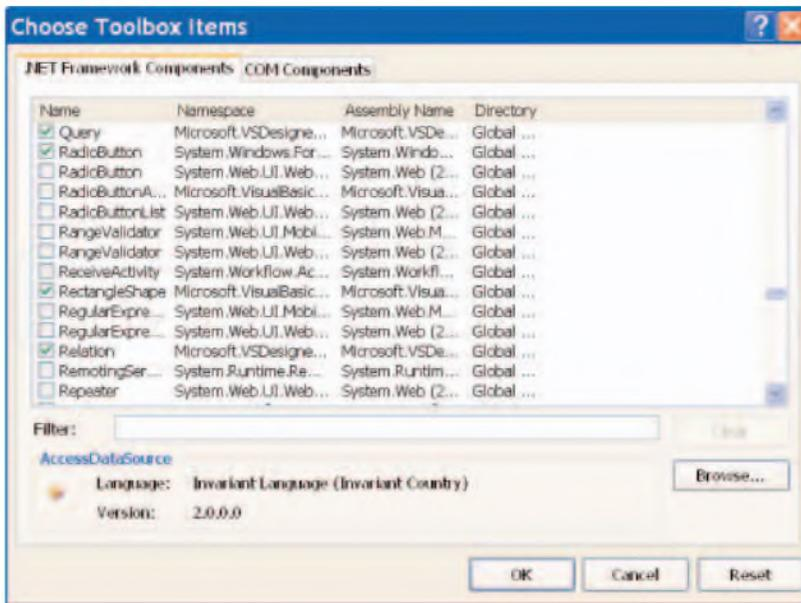

Fig.1. The Shape components will not be loaded automatically when using the Express edition, but they can be loaded manually under their individual names
However, it is true that installing this software will not result in the new components automatically appearing in the relevant section, as will normally happen with the full version, but they can be loaded manually. I had, in fact, tried to do this, but made a mess of quite a simple process. It is just a matter of going to the Tools menu and choosing Select Toolbox Items. This produces a popup window (Fig.1) where the checkboxes for the three individual Shape components must be ticked.
**A** LOW component count, easy to construct and compact circuit of a general-purpose infrared (IR) proximity detector switch is shown in Fig. 1.
Fig.1. Circuit diagram for the general purpose Infrared Proximity Switch. Note that IC1 pins 5 and 6 are the timing element pins and that pins 1 and 2 are the output filter and low-pass filter pins respectively